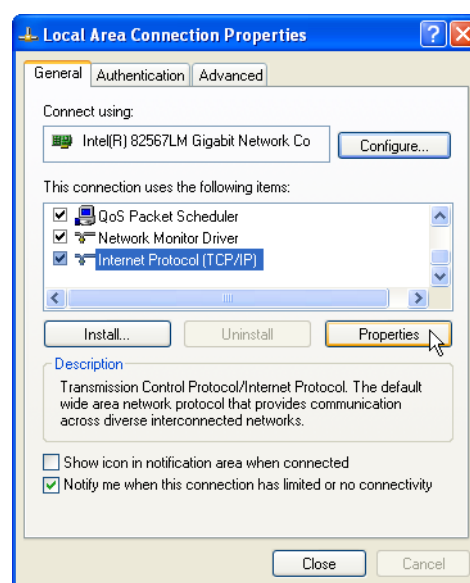

Figure 6 Local Area Connections Status
The **Local Area Connection Properties** window opens (see *Figure 6*).
Step 4. Scroll down and highlight **Internet Protocol (TCP/IP)** (see *Figure 6*).